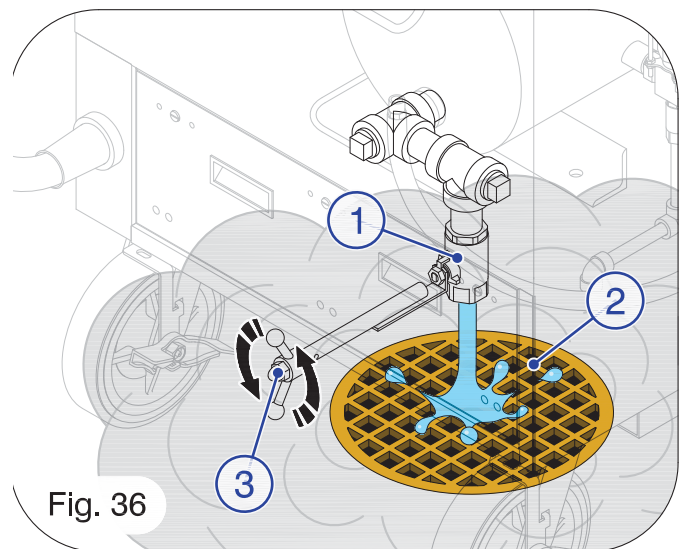

Fig. 36
- ☞ Move the Steam Generator so that the Drain Valve (**1-Fig. 36**) is over a suitable Drain (**2-Fig. 36**) that can accept **AT LEAST 371°F or 188°C**.
- ☞ Slowly (**Blow-Down**) the Chamber (**4-Fig. 36**) by turning the Drain Handle (**3-Fig. 36**) **COUNTER CLOCKWISE**, a 1/4 turn at a time, to the **OPEN** position, until the Pressure Gauge reads **ZERO** and the Chamber is empty.
Very Hot Water and Steam will discharge from the Drain Valve (**1-Fig. 36**) at a very high velocity, quickly filling the room with steam.